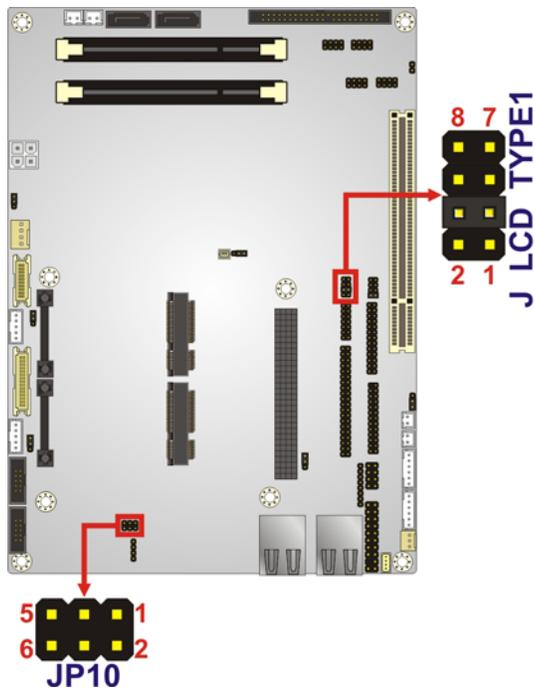

Figure 4-10:LVDS Panel Resolution Jumper Locations
- Jumper Location:** See Figure 4-10